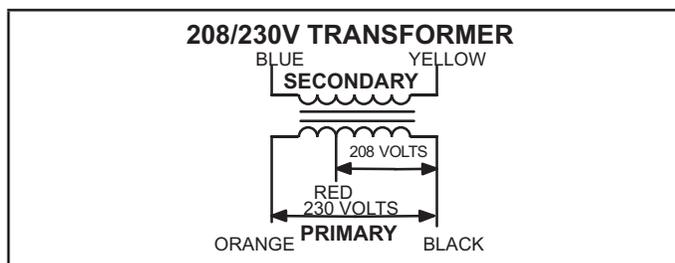

FIGURE 2
All ELP models use a single line voltage to 24VAC transformer mounted in the control box. Transformer T1 supplies power to control circuits in the ELP unit. The transformer is rated at 70VA and is protected by a 3.5 amp circuit breaker (CB8). CB8 is internal to the transformer. The 208/230 (Y) voltage transformers use two primary voltage taps as shown in figure 2, while 460 (G) and 575 (J) voltage transformers use a single primary voltage tap.